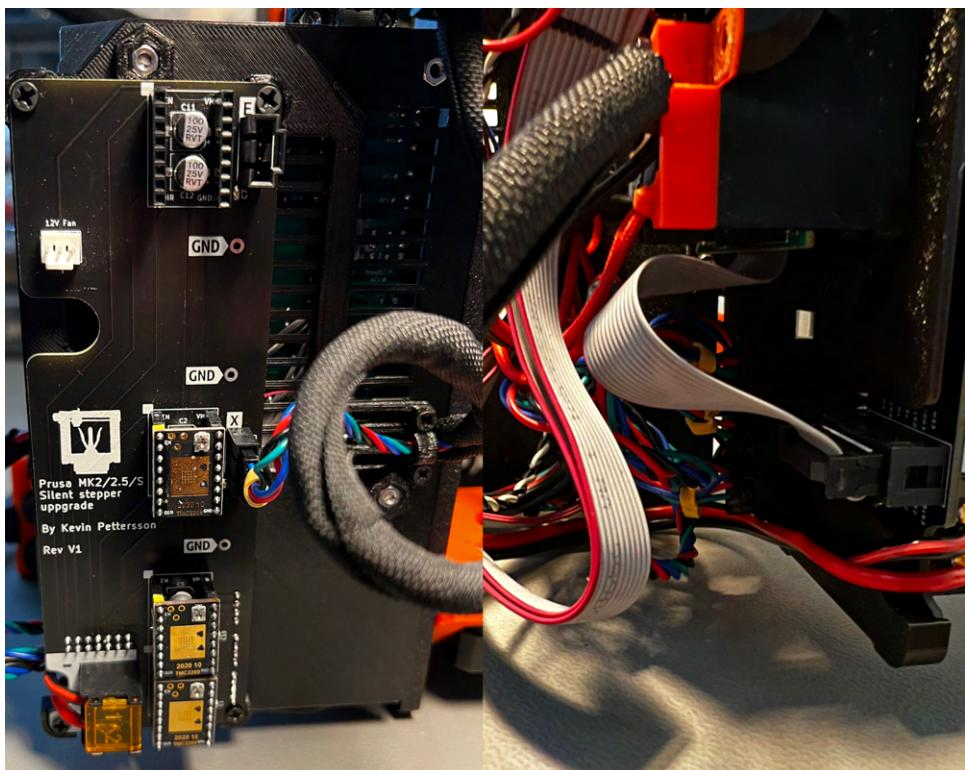

Figure 13: View of front and back of **XYYZE** upgrade board for X, Y and Z installation, NOTE depicted image is of V1, V1.1 looks slightly different.
You can now mount the upgrade board with 4 of the included threaded screws. You can then install the power cable in the correct orientation, motor cables, data cable, X-axis strain relief and stepper drivers. I suggest installing the drivers without heat-sink as it will be easier to adjust the Vref later. The result at this stage should look like Figure 13.
5. Lastly, add the cable to the cable sleeve and connect it to the LED port located next to the X-axis motor connector, as depicted in Figure 13. Please note that you should use the larger strain relief holder on the upgrade board and double check that the red wire is towards the + sign on the board.